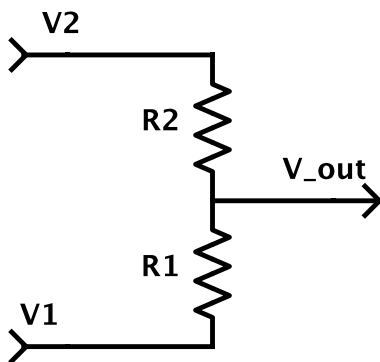

Figure 2: What is the voltage  $V_{out}$ ?
**Pre-lab Exercise:** for the circuit in Figure 2, what is the voltage  $V_{out}$ ?